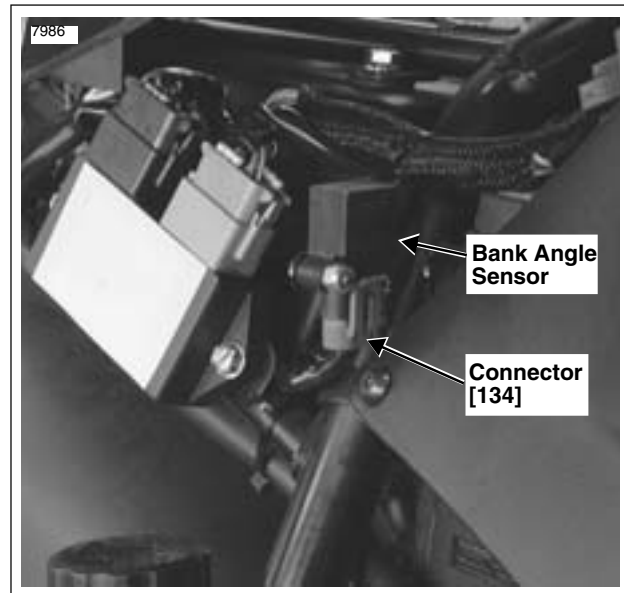

Figure 7-6. Bank Angle Sensor
2. See Figure 7-6. Locate bank angle sensor below left side of tail section. Unplug sensor connector [134].
3. See Figure 7-6. Plug connector [134] into bank angle sensor.